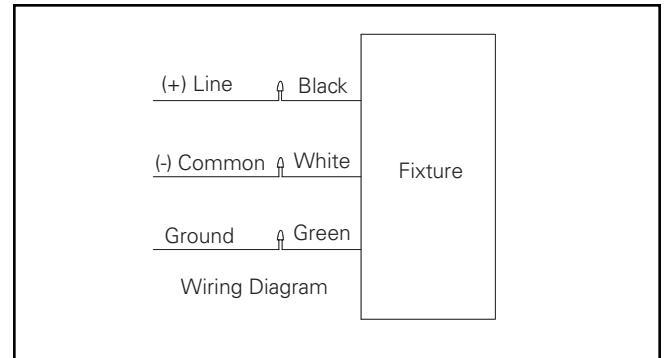

Figure 3.
2. Loosen but do not remove (2) center bolts and remove (1) set screw.
5. Refer to wiring diagrams for power connection. (Figure 3.)
2. Remove (2) cover plate screws and cover plate with #2 Philips screwdriver.
6. Loosen (3) set screws and slide the slipfitter onto pole or mounting bracket.
7. Position luminaire into the desired direction; and tighten (3) set screws to 7 ft-lbs.
9. Refer to the wiring diagram for power connection. (Figure 3.)